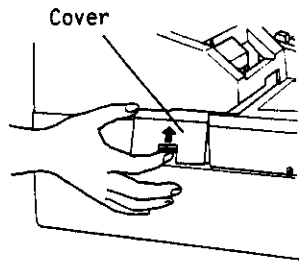

Fig. 1
1. Remove the Receipt Cover by pulling it upward (Fig. 1 on the previous page).
2. Remove the cover located on the lefthand side of the cabinet, by lifting it up, as shown in Fig. 1.